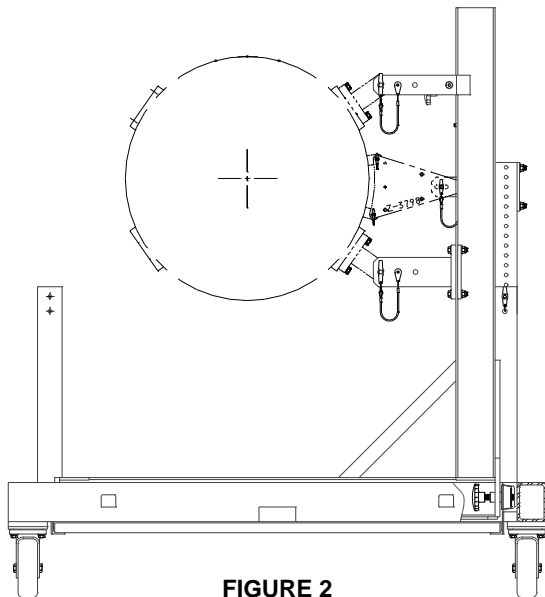

FIGURE 2
3. Attach the front and rear mounting adapters to the engine. (See **Figure 2**)